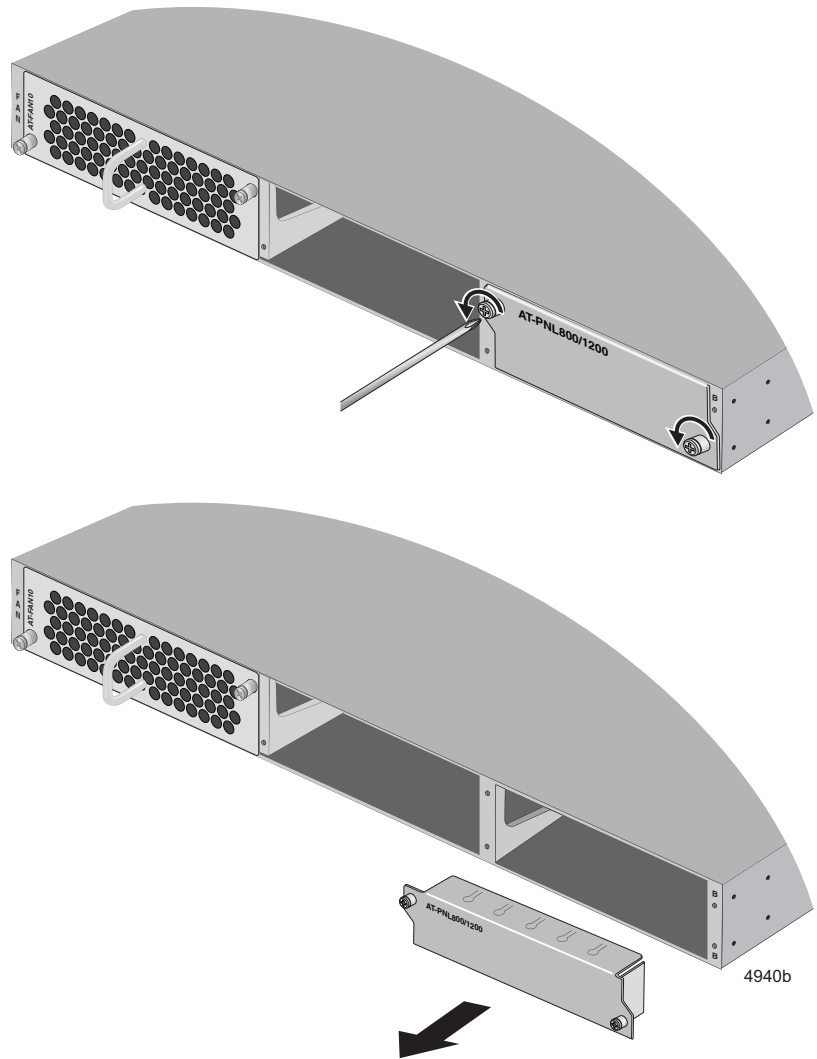

Figure 17. Removing the PNL800/1200 Blank Panel
2. Use a cross-head screwdriver to loosen the two captive screws on the PNL800/1200 blank panel covering power supply slot B on the back panel and remove it from the switch. Refer to Figure 17 on page 63.